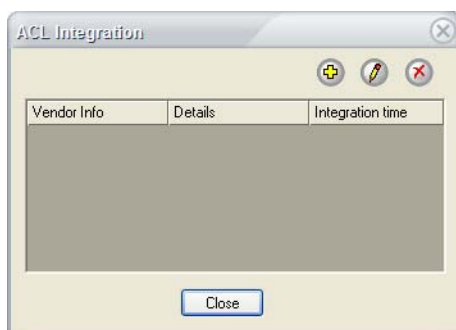

Figure 13-31: Configuring AirWave Server information
- 2) Click **Configure**. The ACL Integration screen appears. See Figure 13-31.